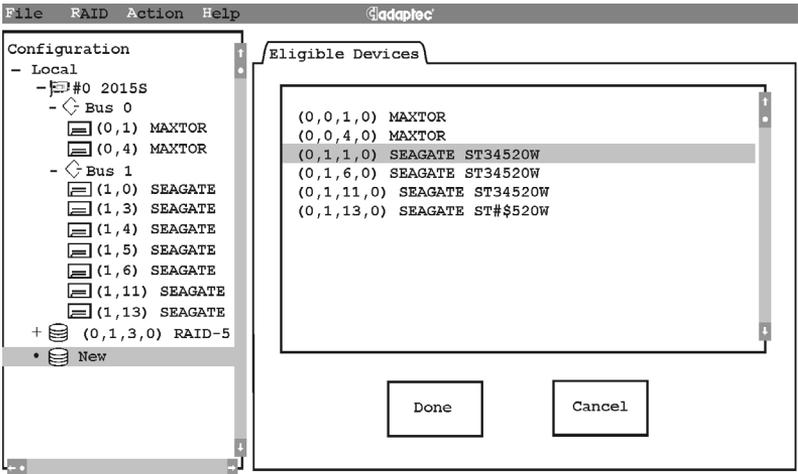

Figure 2-10 Eligible Devices Tab
- b The Eligible Devices tab appears, as shown in Figure 2-10. The list of eligible devices can be either individual hard drives or previously created array groups. Array groups appear in the list when you select RAID 0 and eligible array groups exist.